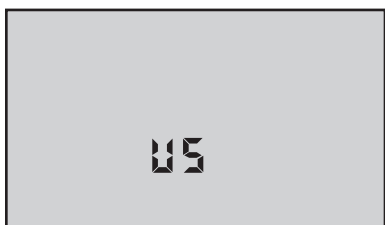

Figure 16
3. Press  to change. Display will now indicate other format (see Figures 16 & 17).